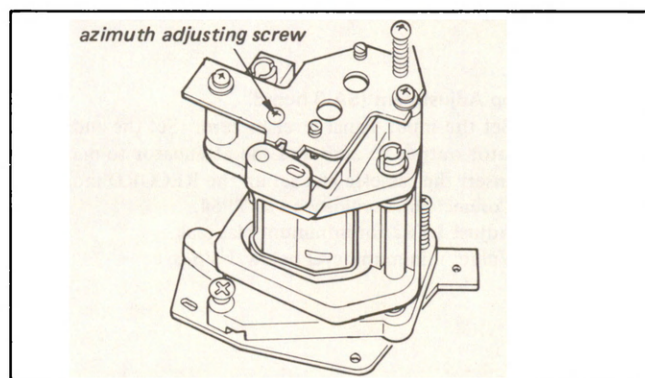

Fig. 4-43. Azimuth adjustment
- (1) Terminate the AUDIO OUT terminal with a 100 k Ω resistor and connect the VTVM.
- (2) Play back the 5 kHz audio signal segment of the alignment tape.
- (3) Adjust the azimuth adjusting screw on the audio head for maximum output level. (See Fig. 4-43.)